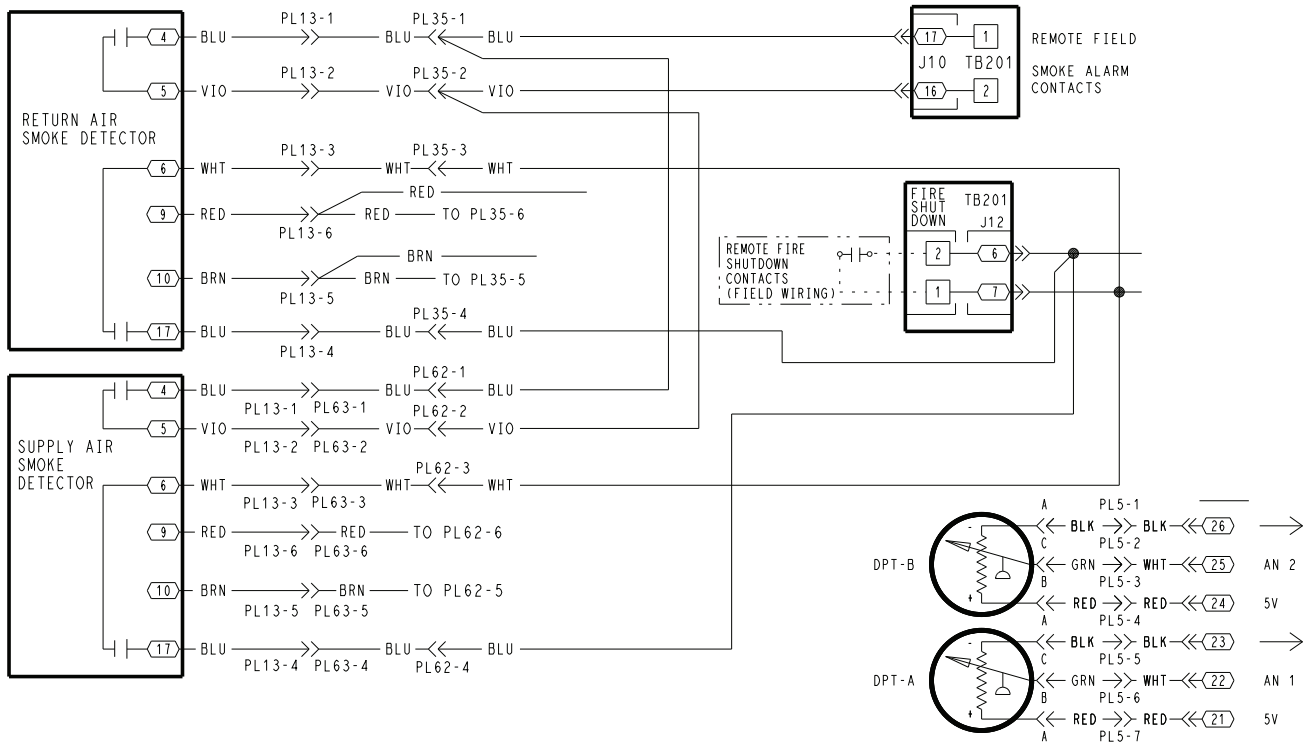

Fig. 64 — Return/Supply Air Smoke Detector Wiring
- Return/supply air smoke detector (Fig. 64)